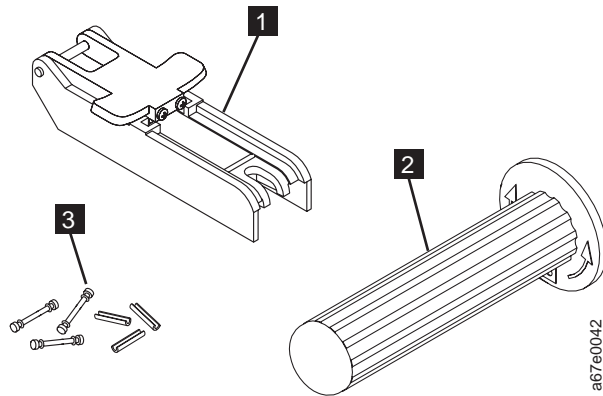

Figure 123. Leader Pin Reattachment Kit
- **Leader pin attach tool** (see **1** in Figure 123 on page 121). A plastic brace that holds the cartridge door open.
- **Cartridge manual rewind tool** (see **2** in Figure 123 on page 121). A device that fits into the cartridge's hub and winds the tape into and out of the cartridge.
- **Pin supplies** (see **3** in Figure 123 on page 121). Leader pins and C-clips.